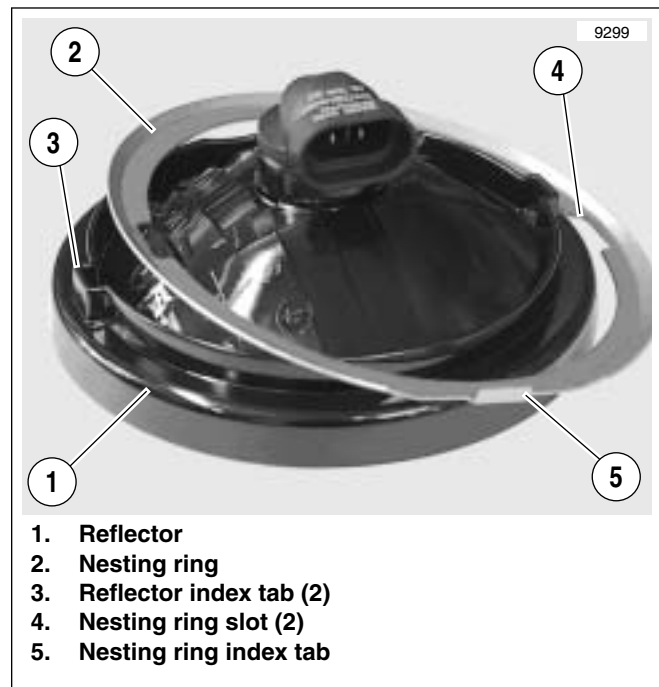

Figure 8-12. Assembling Reflector and Nesting Ring
6. See Figure 8-12. Place nesting ring (2) onto reflector (1) so that concave surface of nesting ring faces away from reflector, nesting ring index tab (5) is at the bottom, and reflector index tabs (3) fit inside nesting ring slots (4).